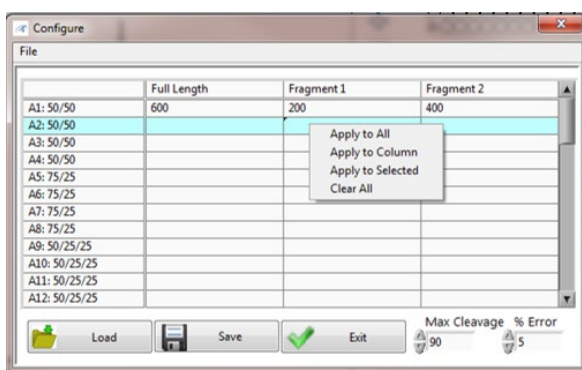
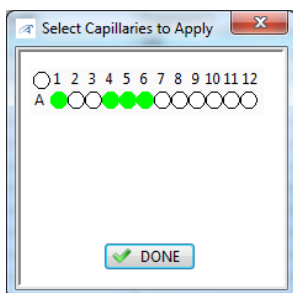

Figure C3. Setting the expected **Full Length** PCR and cleavage fragment sizes (**Fragment 1** and **Fragment 2**; in order of increasing size) in the **Configure** screen.
Figure C4. Apply to Selected pop up dialog, to select additional wells to apply size information from a specific well.
- 4 In the **Configure** screen enter the expected PCR fragment size (**Full Length**) and the expected cleavage fragment sizes (**Fragment 1** and **Fragment 2**; enter in order of increasing size) for each sample well (Figure C3). Right-click over a cell and select **Apply to Column** to copy the entered value in that cell to the entire column. To apply an entire row of entered values to all rows, right click over the row with the desired values entered and select **Apply to All**. To apply to a selected set of wells, right click over the row with the desired values entered and select **Apply to Selected**, mark the respective wells to copy the values to in the pop up dialog box (Figure C4), and click **Done**. To clear all entered values, right click and select **Clear All**.
- Results calculated by the **CRISPR PS** plugin can be output as a PDF report by selecting **Create PDF**. Options are provided to generate a PDF **Configuration Table**, **Capillary Table**, and/or **Capillary Graph** for all or for selected samples in the report (Figure C6). When selecting the **PDF** button to print a report, a capillary selection pop up dialog will appear, similar to Figure C4, to select the respective sample wells to include in the PDF report.